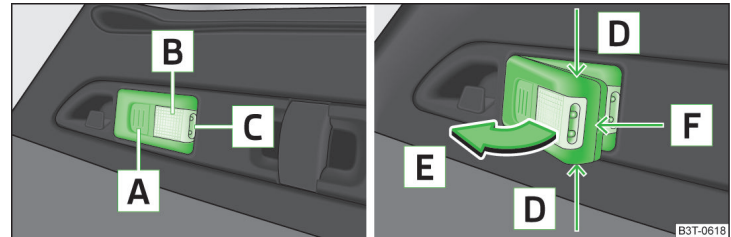

Fig. 109 Use light / remove light
- Lighting the luggage compartment - part **B** » Fig. 109 on page 101 illuminated (lamp in holder).
- If the lamp is not switched off and it is correctly inserted in the holder, the bulbs in the front part **C** » Fig. 109 on page 101 of the lamp are automatically switched off.
- If you press button **A** » Fig. 109 once, the lamp lights up with 100 % light intensity.
- Grasp the lamp in the areas of the arrows **D** » Fig. 109 and swivel it in the direction of the arrow **E**.
- Lever off the cover for the rechargeable batteries with a narrow and pointed object from the location of the lock-off clips **F** » Fig. 109 on page 101.